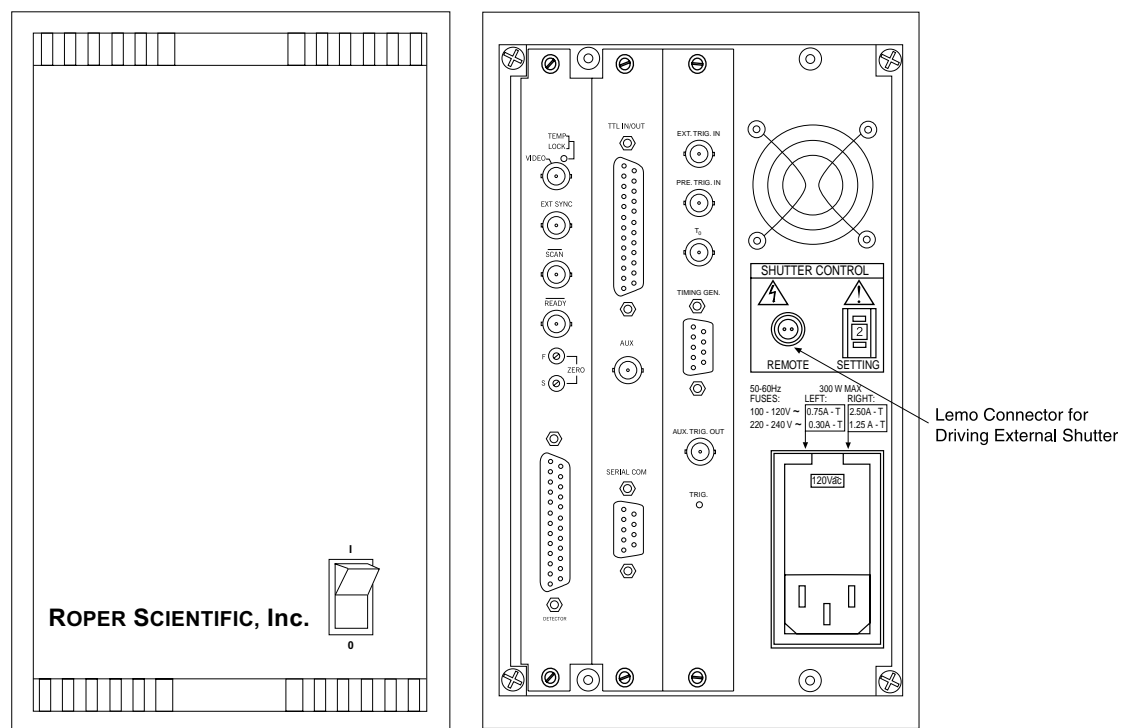

Figure 2. *ST-133/ST-133A front and rear panels*
**POWER Switch and Indicator:** The power switch, which is located on the front panel as shown in Figure 2 (left), interrupts both sides of the controller's AC power input. The switch's indicator LED lights whenever the *ST-133* or *ST-133A* is powered. Note that, when the power switch is actuated, there is a short delay before the indicator lights. This is normal and in no way indicative of a malfunction.